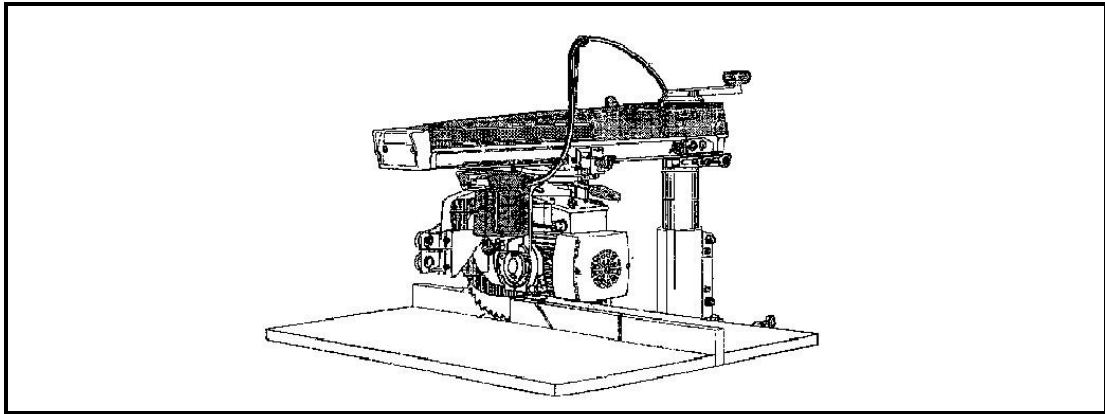

FIGURE 2.3
2.3 Identify the tool in **FIGURE 2.3** and name THREE measures that should be taken to care for it. (4)